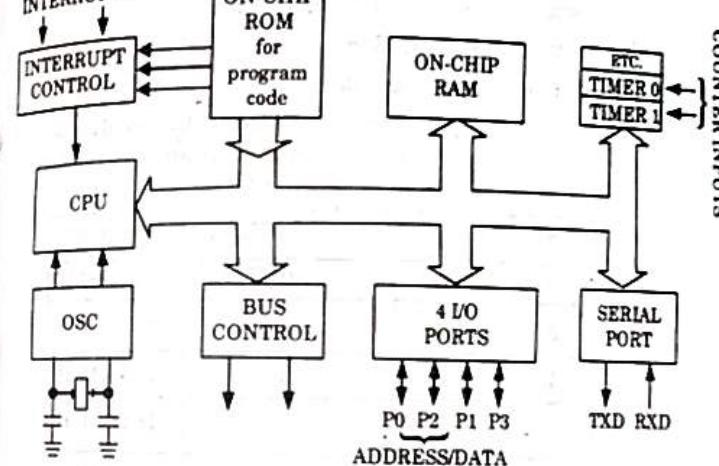

Fig. 4.5.1. Inside the 8051 microcontroller block diagram.
3. The 8051 has a total of four I/O ports, each 8 bits wide as shown in Fig. 4.5.1.